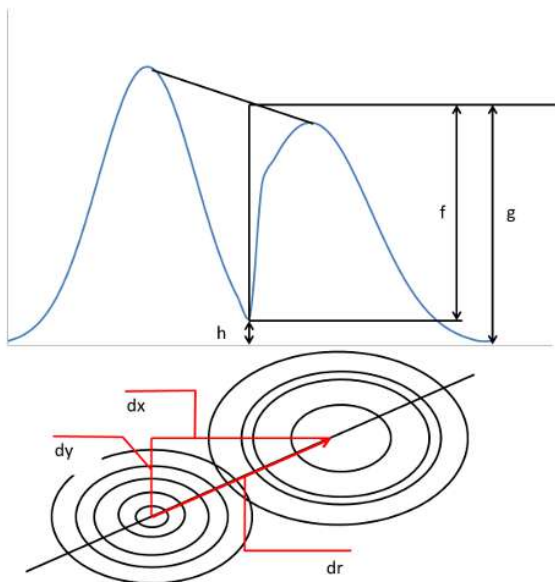

Figure 261: Diagram of ²D resolution measurement: Slice for resolution (top) and 2-dimensional contour plot (bottom)
- Resolution of a pair of peaks in the two-dimensional space is related to the resolution on the first and second dimensions as the Pythagorean average (see Figure 261 on page 485)